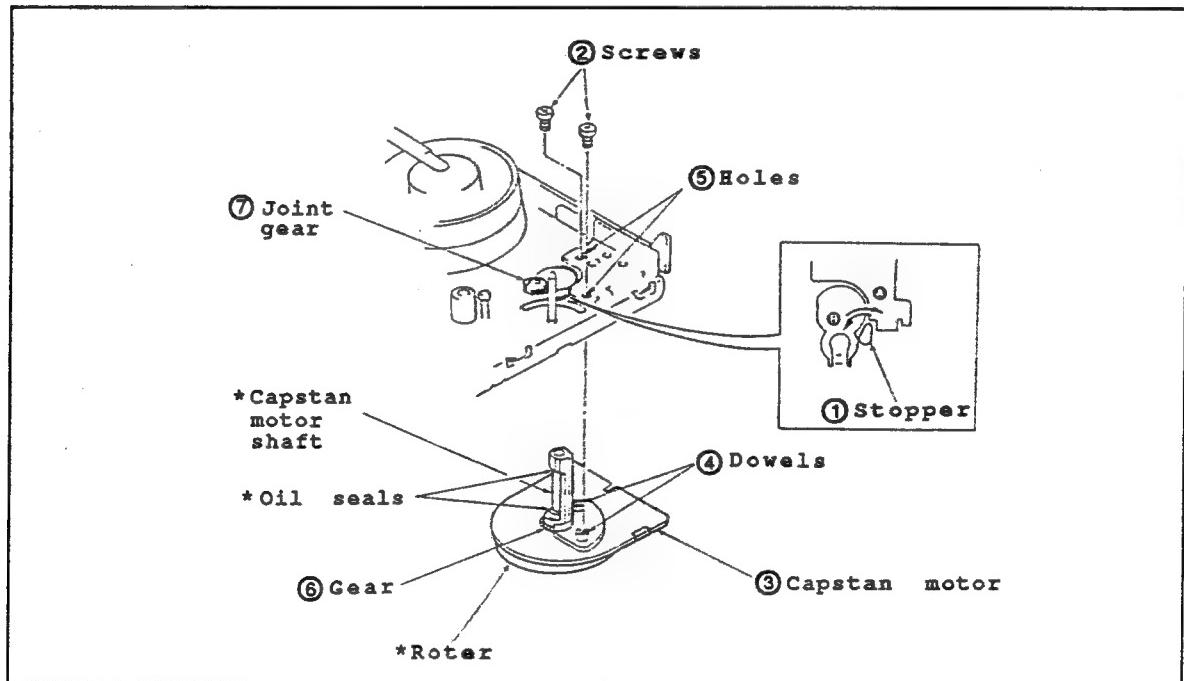

Fig.II-9
• Disassembling (Fig.II-9)
- (1) Set the unloading state.
- (2) Rotate the stopper ① in direction Ⓐ until it comes to an end.
- (3) To take out the capstan motor ③, remove the two set screws ②.
• Reassembling (Fig.II-9)
- (1) Align the two dowels ④ with the two holes ⑤ to match the gear section ⑥ with the connecting gear ⑦.
- (2) Secure the capstan motor ③ with the two set screws ②.
- (3) Rotate the stopper ① in direction of Ⓑ until it comes to an end.
*Notes: 1. Do not match the gear section ⑥ and the connecting gear ⑦ forcibly to prevent the cam grooves damaging.